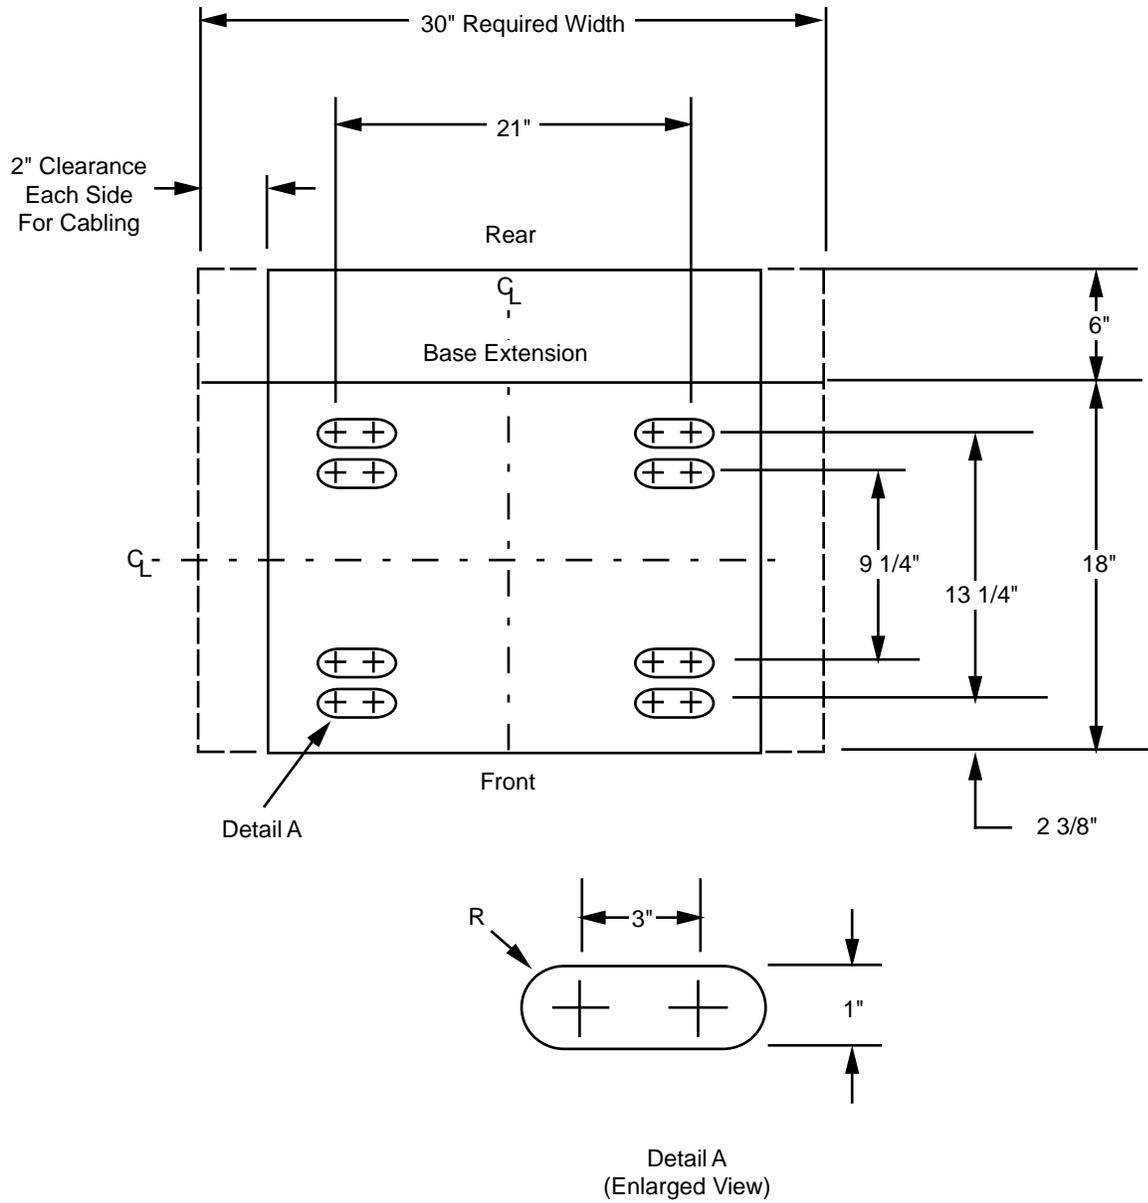

FIGURE 2-8. SAM504 Base Floor Anchoring Hole Pattern
1. Thread power cables through the strain relief connector located at the rear of the top cover, as shown in Figure 2-8. Pull the cables through until the leads are long enough to reach from the strain relief connector to the power terminal with the top cover back far enough so that you can reach the power terminals.
3. Connect the –48 VDC RTN conductor to the ground bus bar located just below the fuse board in the fuse and alarm. Line up the two holes on the terminal with the two holes on the bus bar, as shown in Figure 2-8. Then place the #10-32 screws through the holes and tighten the nut and washer on the other side.